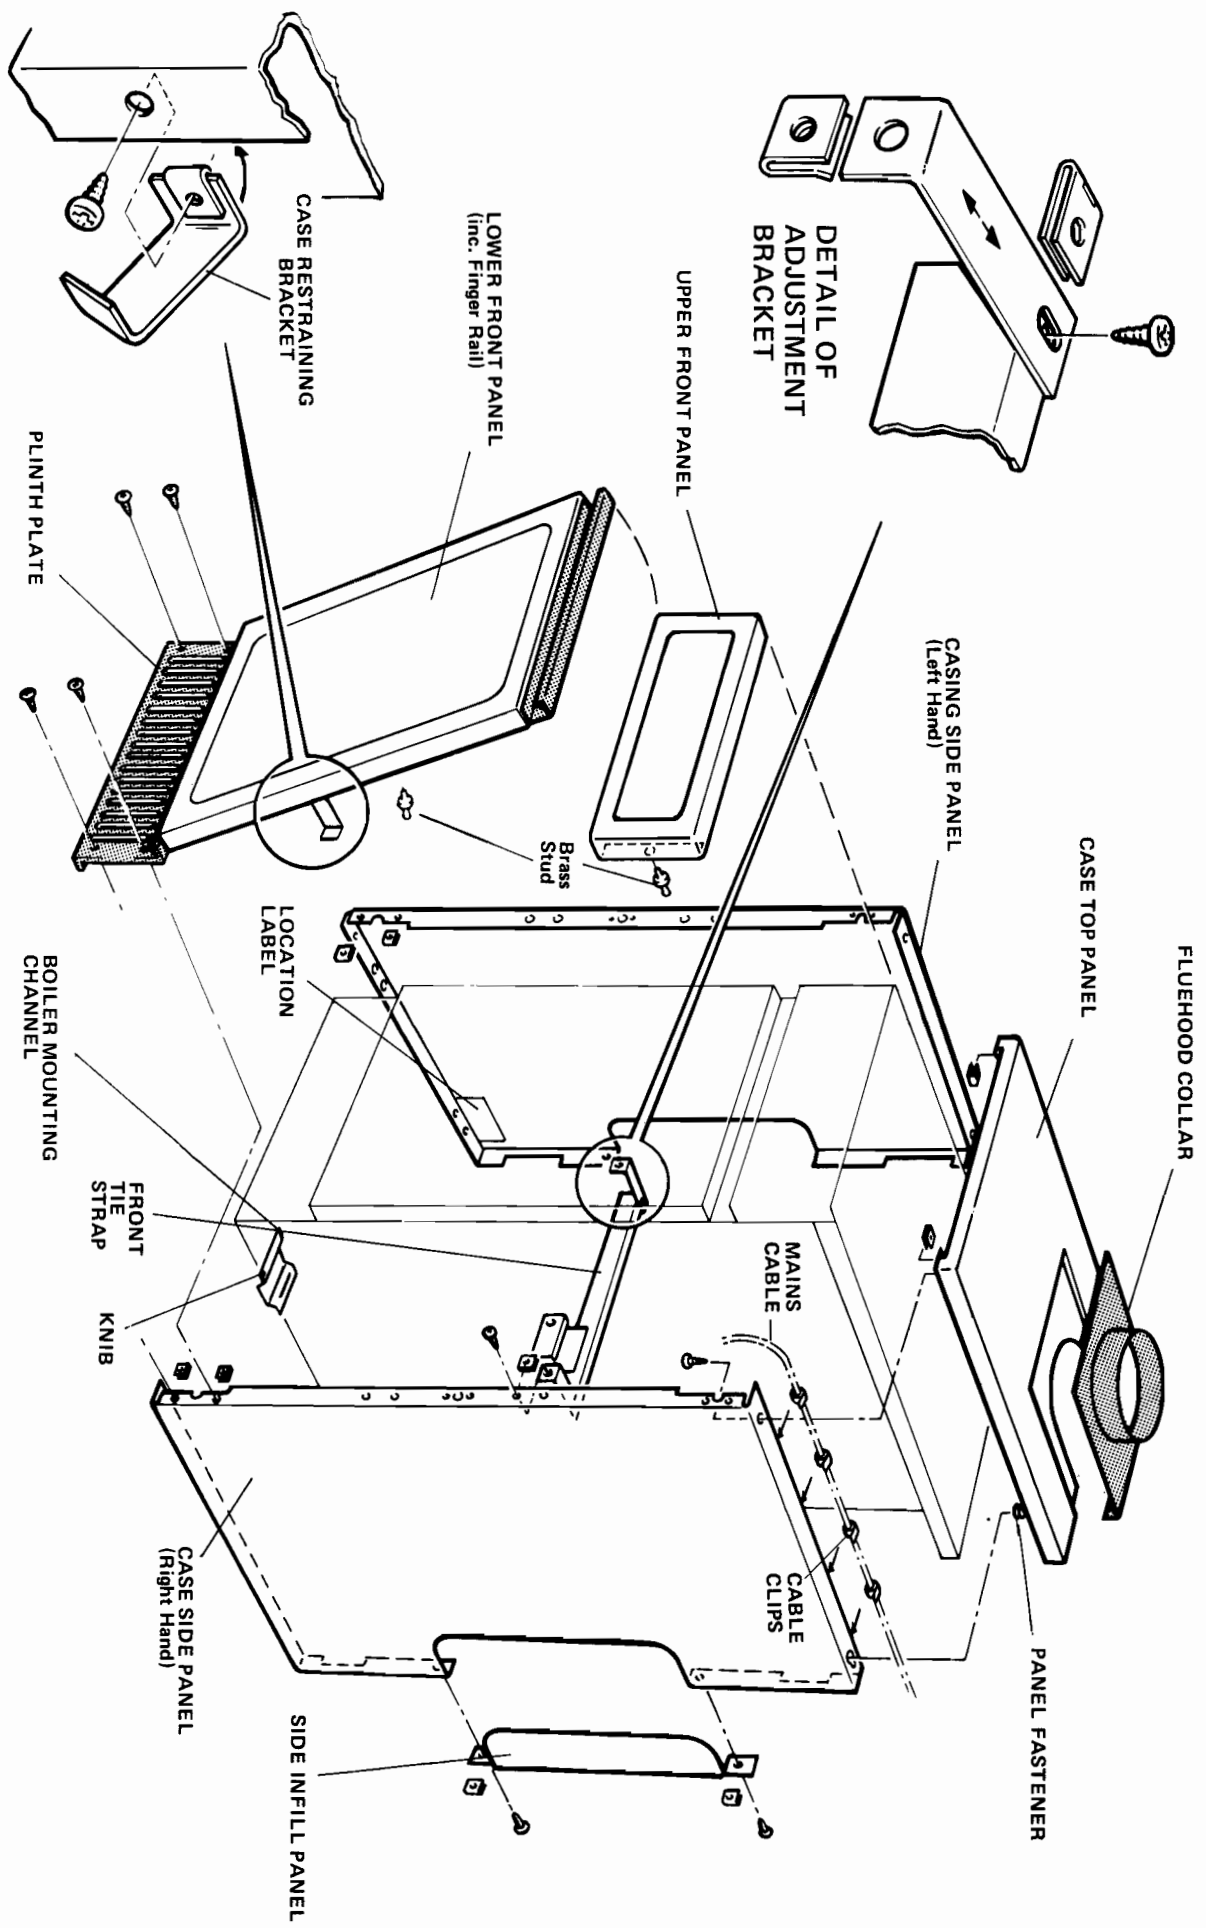

FIG. 14
9. CASING – See Fig. 14
- C. Fit the captive nuts supplied in the fastener pack to the hole positions shown in Fig.14 (13 off including 2 for the side infill panel). The four smaller captive nuts and screws contained in the additional polythene bag should be used for the plinth.
- H. Fit the case adjustment brackets to each end of the front tie strap as shown in Fig.14. Do not fully tighten the screws at this stage.
- S. Fit the panel restrainer together with its captive nut to the right hand side of the lower front panel. (See Fig.14). The fixing hole is below the bank of three holes in the right hand side return flange.